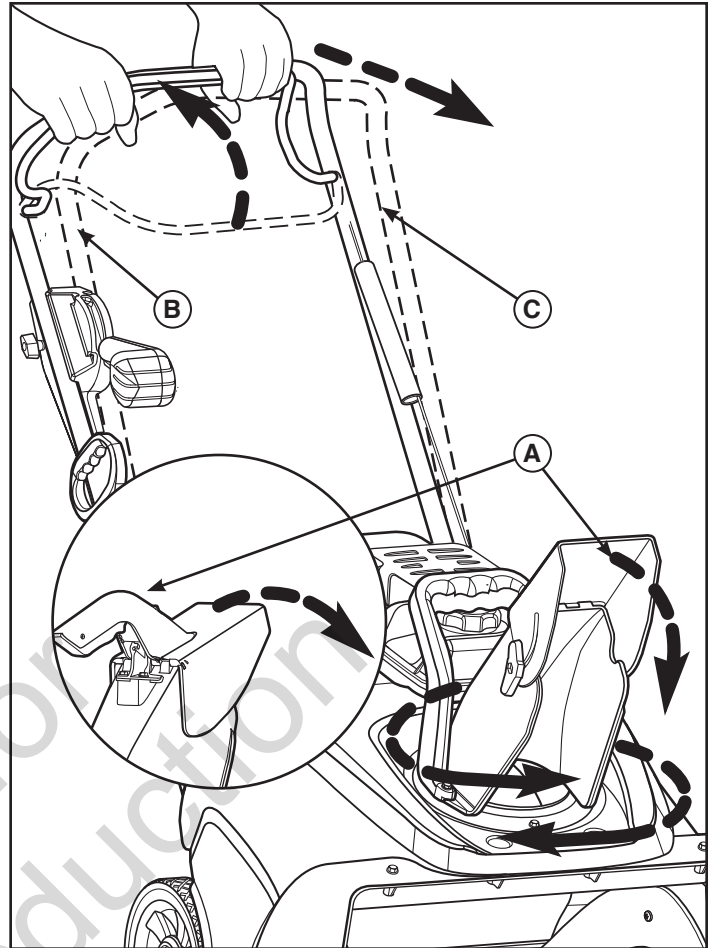

Figure 8
2. Adjust the direction and angle of the discharge chute (A, Figure 8). See Discharge Chute and Deflector in this section
3. Fully press and hold the auger control (B) to engage the auger rotation. Releasing the auger control lever will disengage the auger.